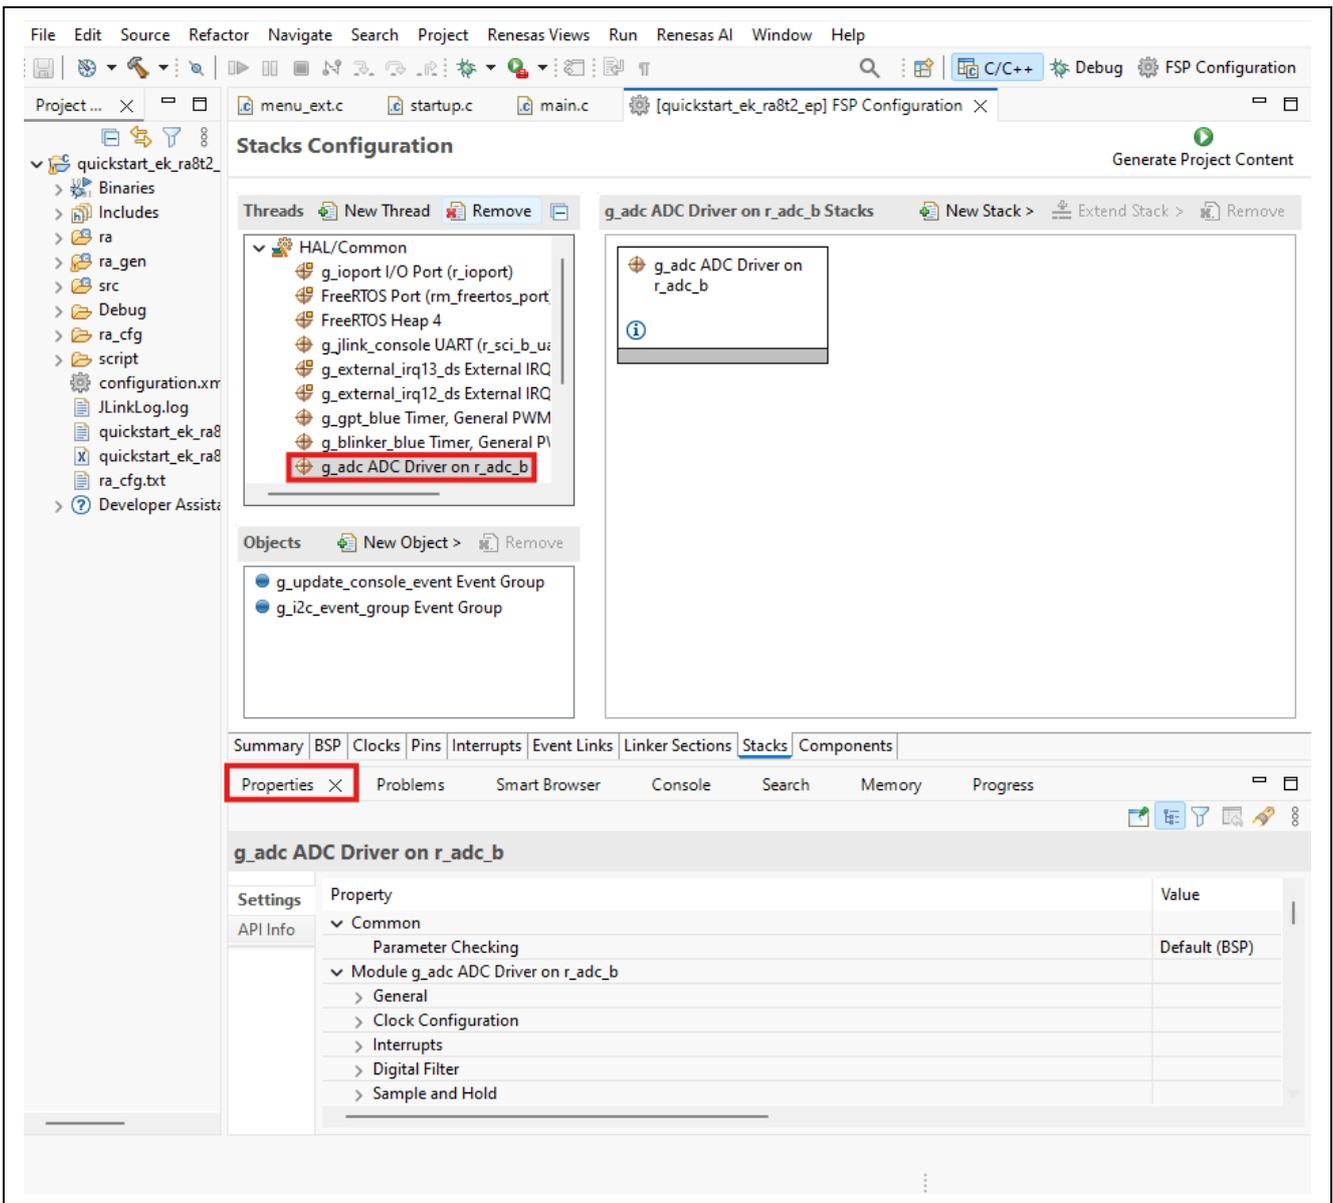

Figure 22. Modifying the Configuration Settings
- For example, in the **Stacks** tab of the FSP configuration, the user can click to select modules to modify the configuration settings, as required, in the **Properties** tab. Figure 22 illustrates modifying the **ADC** driver configuration.